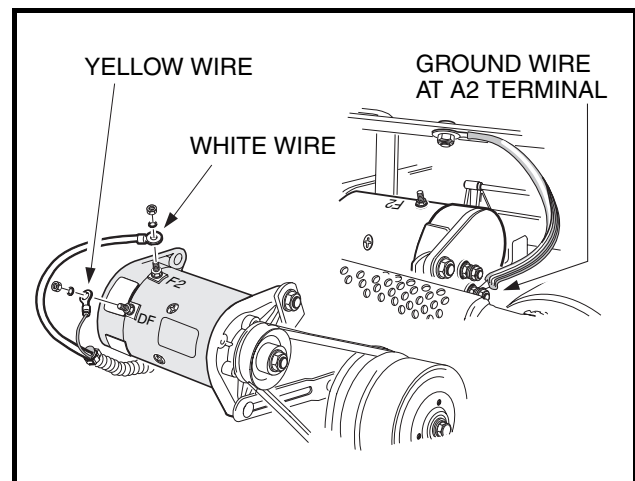

Figure 18-16 Generator Wires
- 4.8. Mark for identification and then disconnect the 6-gauge white wire (F2 post), 6-gauge black ground wire (A2 post), and 16-gauge yellow wire (DF post) from starter/generator (**Figure 18-16, Page 18-8**).